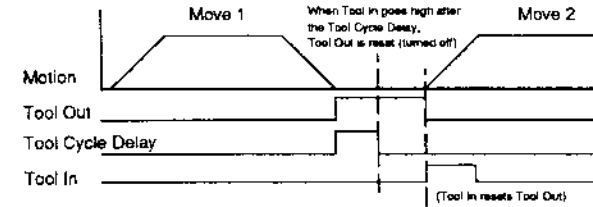

Figure 4-7. Batch Execution Mode 3
**Mode 3** If the Tool Cycle Delay is set greater than zero and the Tool In option is set to 1, Tool Out remains high until after the Tool Cycle Delay has elapsed. Then, when the Tool In signal goes high (switch is closed to +24V), the Tool Out signal is set low and the next move is started (see Figure 4-7). If Tool In occurs during the Tool Cycle Delay, Tool Out is set low after the Tool Cycle Delay.